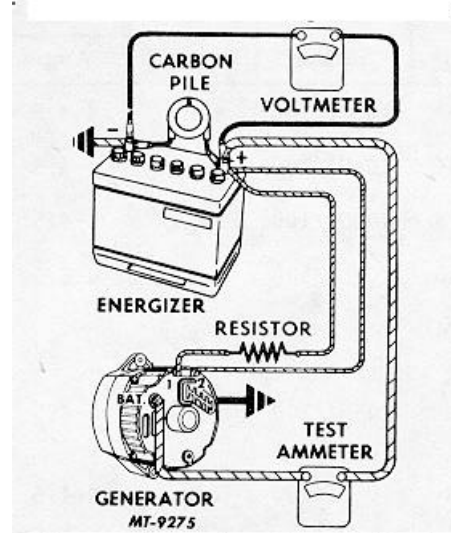

Fig. 13 Connections for Bench Check
1. Make connections as shown in Fig. 13, except leave the carbon pile disconnected. NOTE: Ground polarity of battery and alternator must be the same. Use a fully charged battery and a 10 ohm resistor rated at six watts or more between the alternator No. 1 terminal and the battery.
7. If output is not within 10 amperes of rated output, keep energizer or battery loaded with carbon pile and ground alternator field, Fig. 13 and Fig. 4.